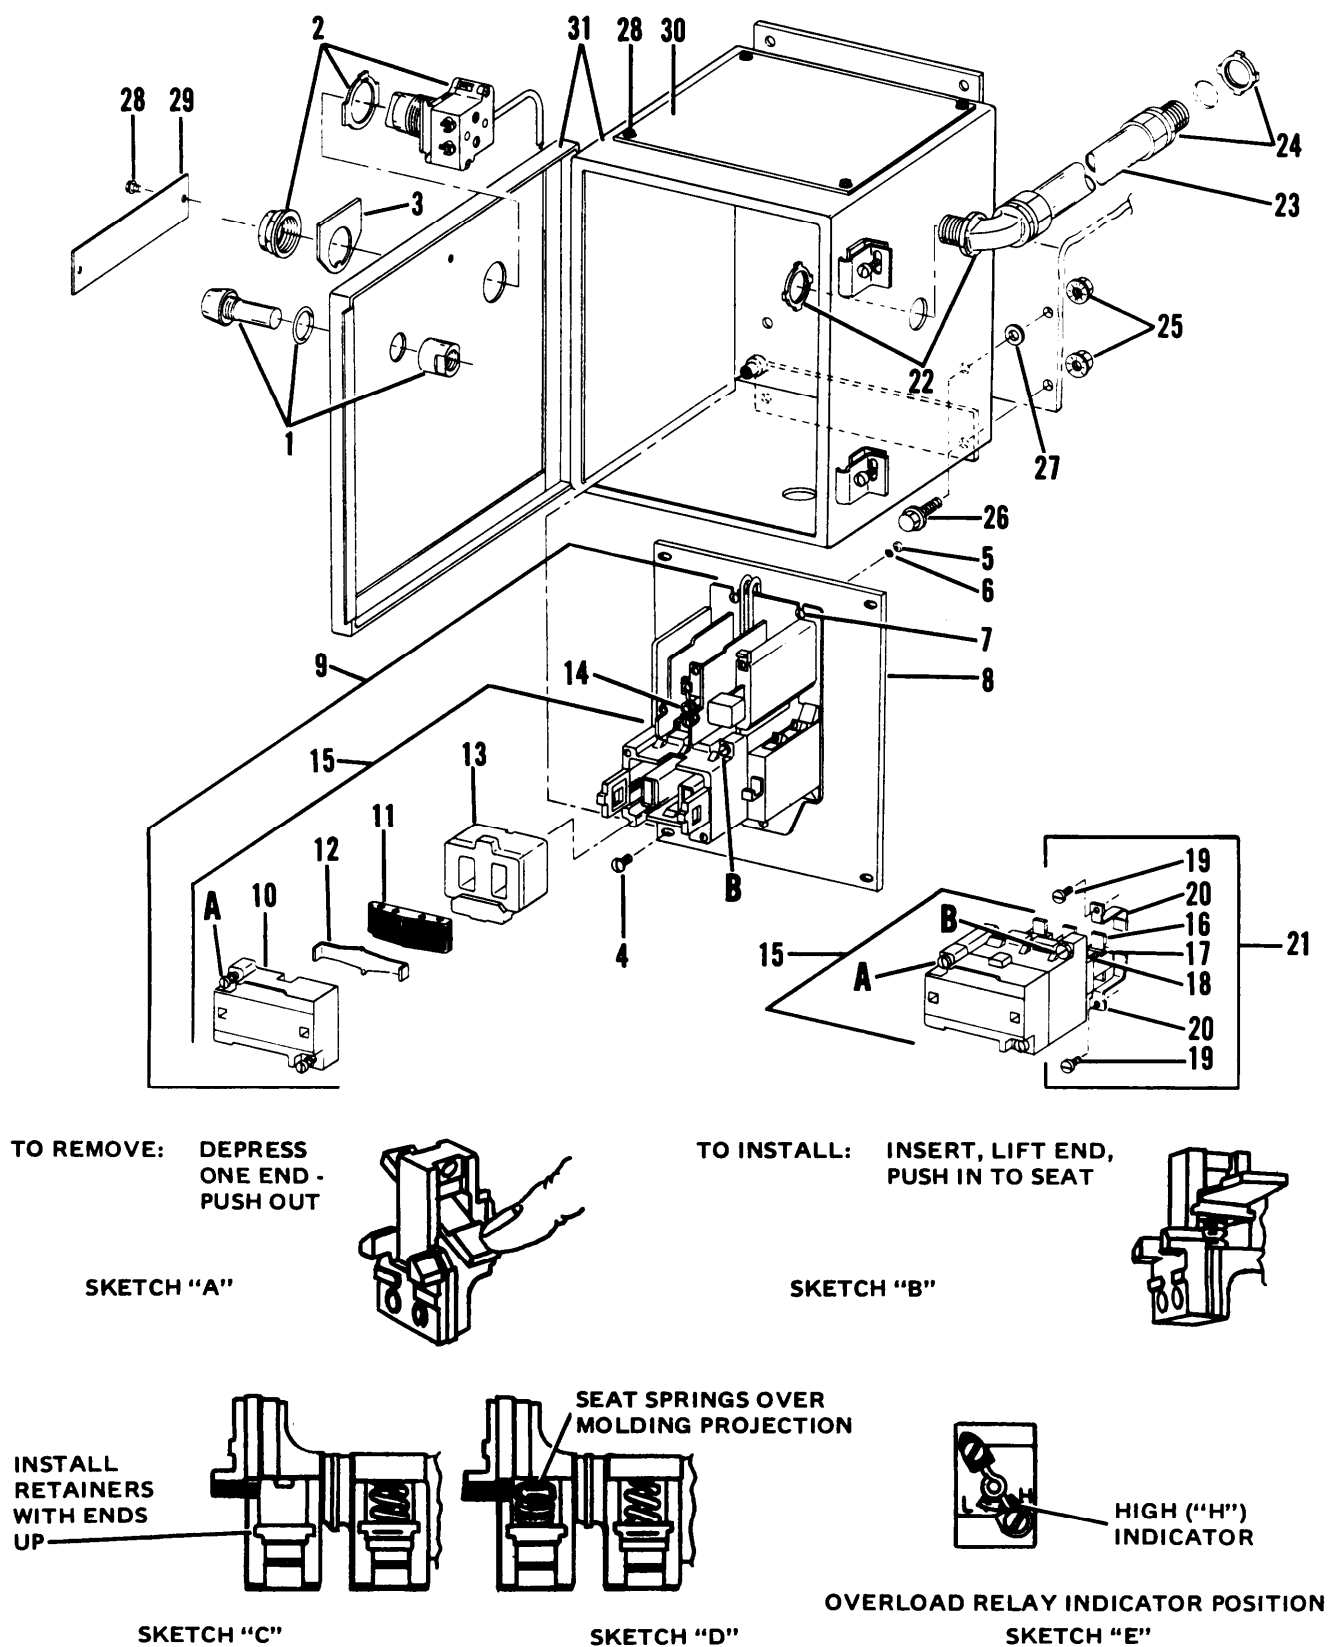

Figure 4-3. Motor control box and starter assembly
- (1) Turn main power OFF at the source. Turn ON-OFF switch (2, figure 4-3) to OFF position. Loosen control box cover clamp screws, move clamps from door lip and open control box door.
- (2) Disconnect and tag all wires for reassembly reference.
- (3) Unscrew and remove mounting nut of reset button and remove the reset button (1).
- (4) Unscrew and remove mounting nut of ON-OFF switch; remove the switch (2) and legend plate (3).
- (5) Remove four screws (4) and lift starter assembly (9) and mounting panel (8) out of control box. Remove three nuts (5), lockwashers (6) and screws (7). Separate starter assembly (9) from mounting panel (8).
- (6) To gain access to coil (13), unscrew the two captive cover screws (A) and remove cover (10). Tilt the top of the armature (11) away from the coil and slide armature (11) up and out. Remove spring plate (12) and pull coil (13) straight out.
- (7) To remove the three heater coils (14), remove terminal screws securing the coil ends and lift coils (14) off overload relay. Install terminal screws to prevent their loss until ready for reassembly.
- (8) To gain access to movable and stationary contacts (16, 20) it is not necessary to remove parts (10 through 14). Simply, unscrew the captive hex head slotted screws (B) and pull out the power unit (15).
Legend for fig 4-3:
(10) Remove stationary contact mounting screws (19). Slide stationary contacts (20) out of the groove in the molding. A hole in the contact plate is provided for removal with a screwdriver.
(11) Only when necessary, remove conduit elbow (22) from control box (31) and withdraw wires from box. Remove conduit elbow (22), conduit (23), and disconnect conduit connector (24) from pressure switch.
(12) To remove control box (31) from air receiver saddle, remove the four nuts (25) and screws (26), and two spacing washers (27) securing the box (28). Remove screws (28), wiring plate (29) and operating instruction plate (30) only when necessary.
**b. Repair/Replacement.** Replace defective heater coils (14, fig 4-3), any wires that show evidence of insulation damage, malfunctioning reset button (1) or ON-OFF switch (2). Replace any other damaged or malfunctioning part. Replace movable and stationary contacts (16, 20) as a set (21). Refer to following paragraph for assembly of these parts.
- (1) If removed, install operating instruction plate (30, fig 4-3) and wiring plate (29) with screws (28). Attach control box (31) to air receiver saddle with four screws (26), two spacing washers (27) and four nuts (25).
- (2) If removed, install conduit connector (24) on pressure switch, connect conduit (23) and conduit elbow (22) running control wires through the conduit into control box (31).